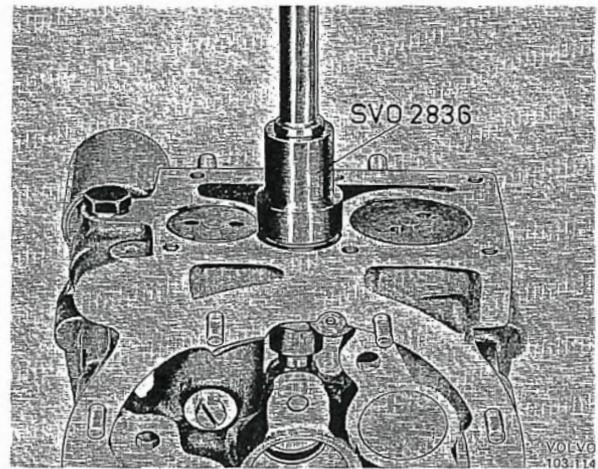

Fig. 4-36. Removing plug
2. Remove the plug under the relief valve with tool 2836, see Fig. 4-36. Pull out the large piston of the relief valve, then the spring and spring